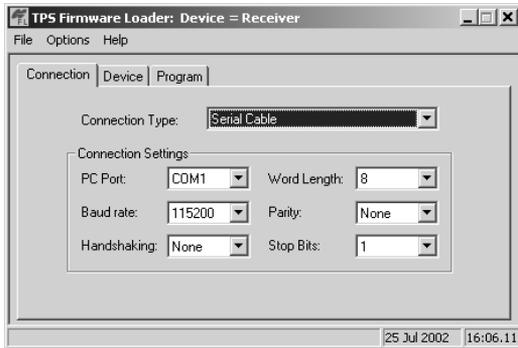

Figure 4-18. FLoader Main Screen
4. Activate FLoader (Figure 4-18).
5. On the **Connection** tab, select the COM port on your computer that connects with your receiver and select its speed (usually 115200) (Figure 4-18).